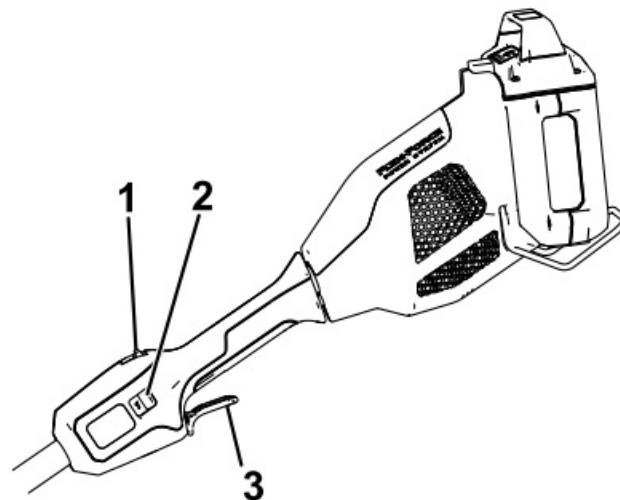

Figure 7
4. To start the attachment, press the lockout button, then squeeze the run trigger (Figure 7).